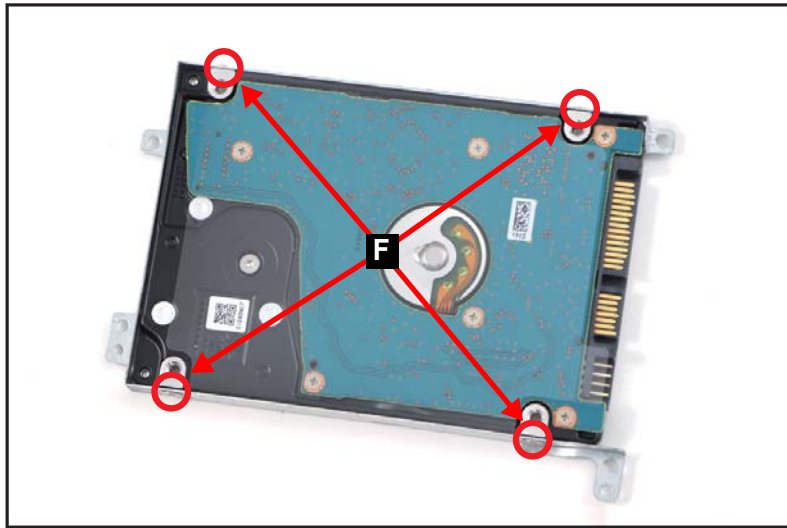

Figure 1-30. HDD Module Removal
5. Remove four (4) screws (F) from the HDD bracket (Figure 1-30).